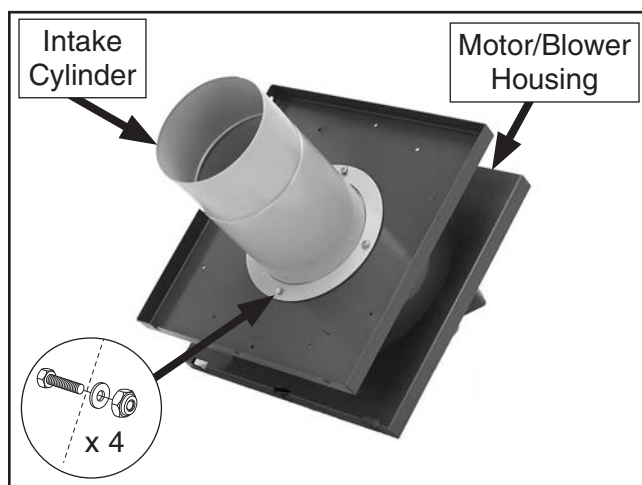

Figure 9. Intake cylinder attached to the bottom of motor housing.
7. Attach intake cylinder to bottom of housing, as shown in **Figure 9**, using (4) $\frac{5}{16}$ "-18 x $\frac{3}{4}$ " hex bolts, (4) $\frac{5}{16}$ " flat washers, and (4) $\frac{5}{16}$ "-18 lock nuts.